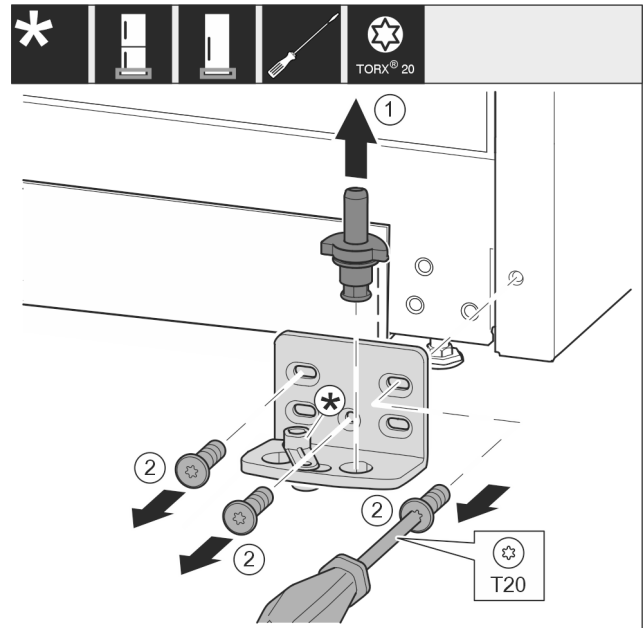

Fig. 13
- ▶ Lift the bearing pin completely upward and remove it. *Fig. 13 (1)*
- ▶ Remove the screws with the T20 screwdriver and take off the bearing bracket. *Fig. 13 (2)*